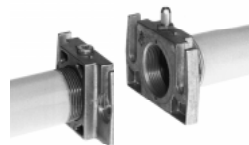

Fig. 22
1. Mount flange onto tube lines: use appropriate sealing agent (see Fig. 22);
2. insert MB-DLE: note position of O rings (see Fig. 22);